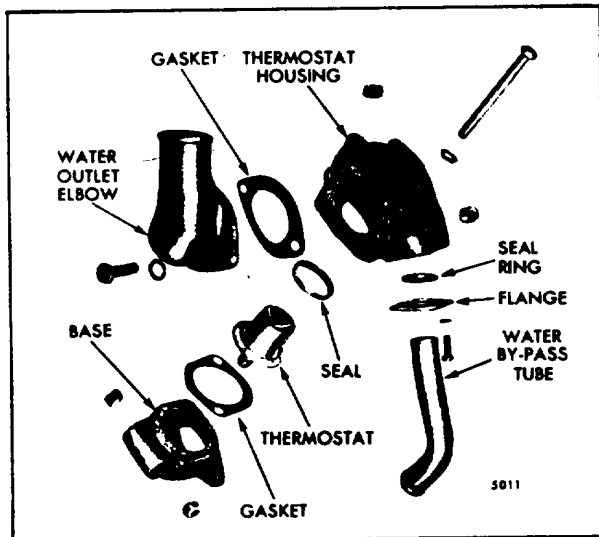

Fig. 2. - Thermostat Housing Details and Relative Location of Parts (V-Type Engine)
3. On the V-type engine, remove the cross-over by-pass tube which is located between the thermostat housings. Also, disconnect the by-pass tube between the water pump and the thermostat housing (Fig. 2). Remove the gaskets. Then loosen the bolts and remove the thermostat housings from their bases. Remove the thermostats and remove and discard the thermostat seals.